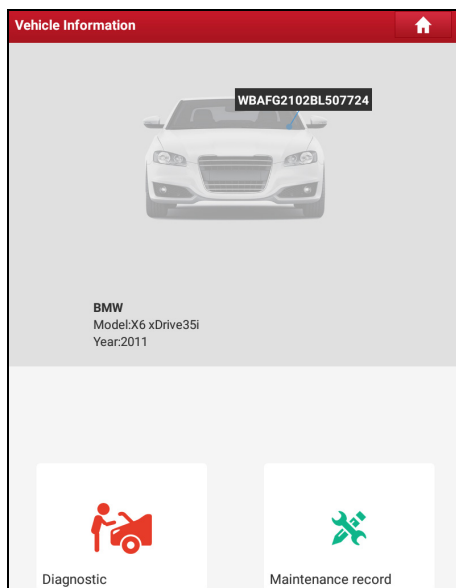

Fig. 5-5
- A. If the VIN can be found from the remote server database, a screen similar to Fig. 5-5 displays:
- If the VIN scanned is incorrect, tap the result field to modify it and then tap "OK". If the VIN exists on the remote server, the system will enter the vehicle information screen. See Fig. 5-5.